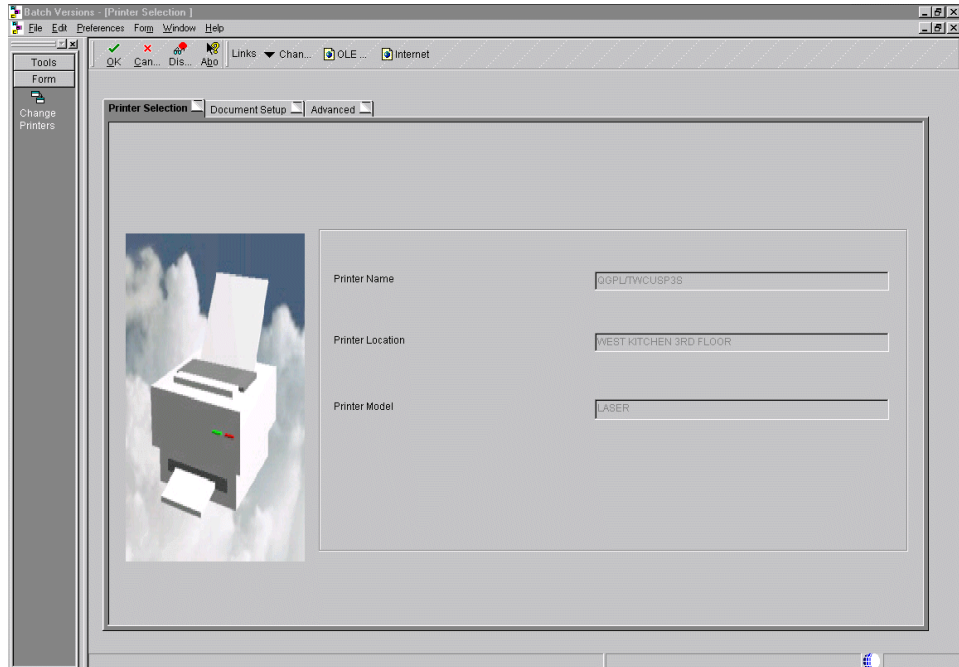

Figure 195. Printer Selection display
4. From this display, you can prompt for additional Data Selection or Sequencing options. You can also override your default location or turn error logging on by clicking the **Advanced** icon in the left (Row) toolbar. For our example, we accept all of the defaults by clicking the Submit button. The next display appears as shown in Figure 195 on page 404.